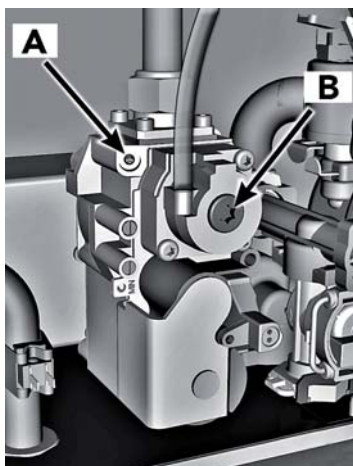

fig. 32 - Gas valve
3. Now adjust the **Throttle setting** (fig. 32 - screw **A**) until the CO₂ is at the correct **SETTING LEVEL** (see table 4), confirm that the CO/CO₂ ratio is within limits.
2. Now adjust the **offset pressure setting** (fig. 32 - cup **B**) until the CO₂ is at the correct **SETTING LEVEL** (see table 5), confirm that the CO/CO₂ ratio is within limits.